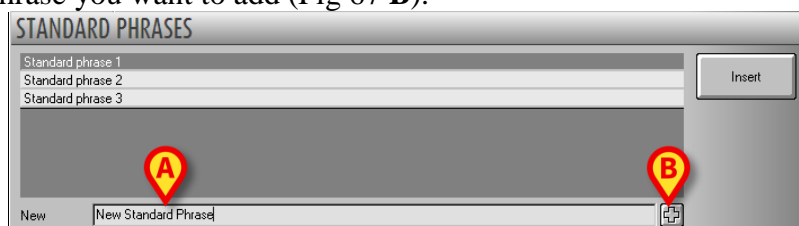

Fig 67
- click the “**New**” field on the “**Standard phrases**” window (Fig 67 A). A blinking cursor appears in the field.
- Type the phrase you want to add (Fig 67 B).
- Click the  button placed alongside the field (Fig 67 B).